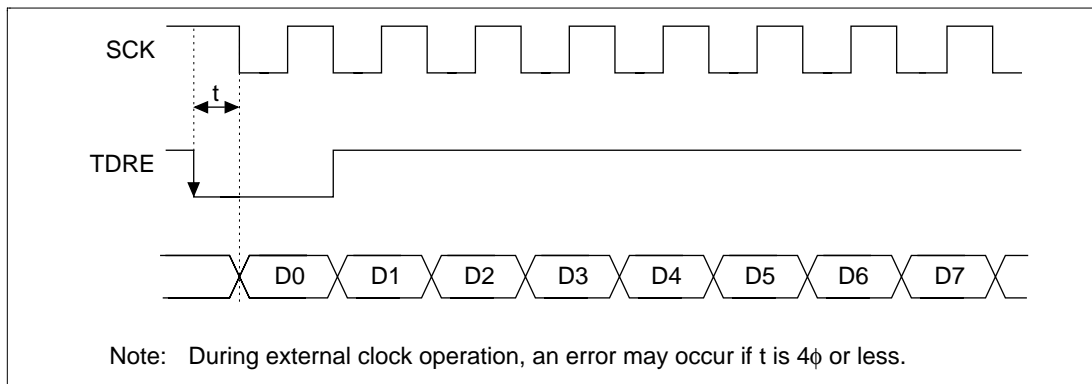

Figure 12.26 Example of Clock Synchronous Transmission with DMAC
- When using an external clock source for the synchronization clock, update the TDR with the DMAC or the DTC, and then after five system clocks or more elapse, input a transmit clock. If a transmit clock is input in the first four system clocks after the TDR is written, an error may occur (figure 12.26).